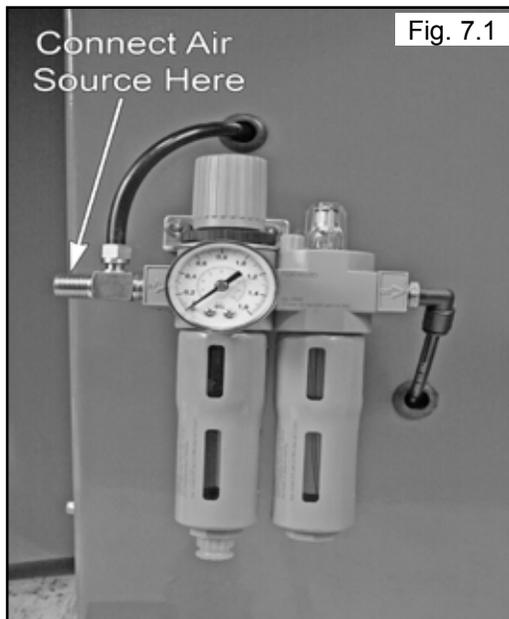

Fig. 7.1
1. Connect the Air Supply to the Air Oil Regulator. The unit is furnished with a 1/4" pipe thread female fitting for easy connection. This connection is located on the right side of the rear of the machine. A 1/4" ID hose (or pipe) for connection to the machine is satisfactory. Sufficient air pressure assures good performance. (See Fig. 7.1)